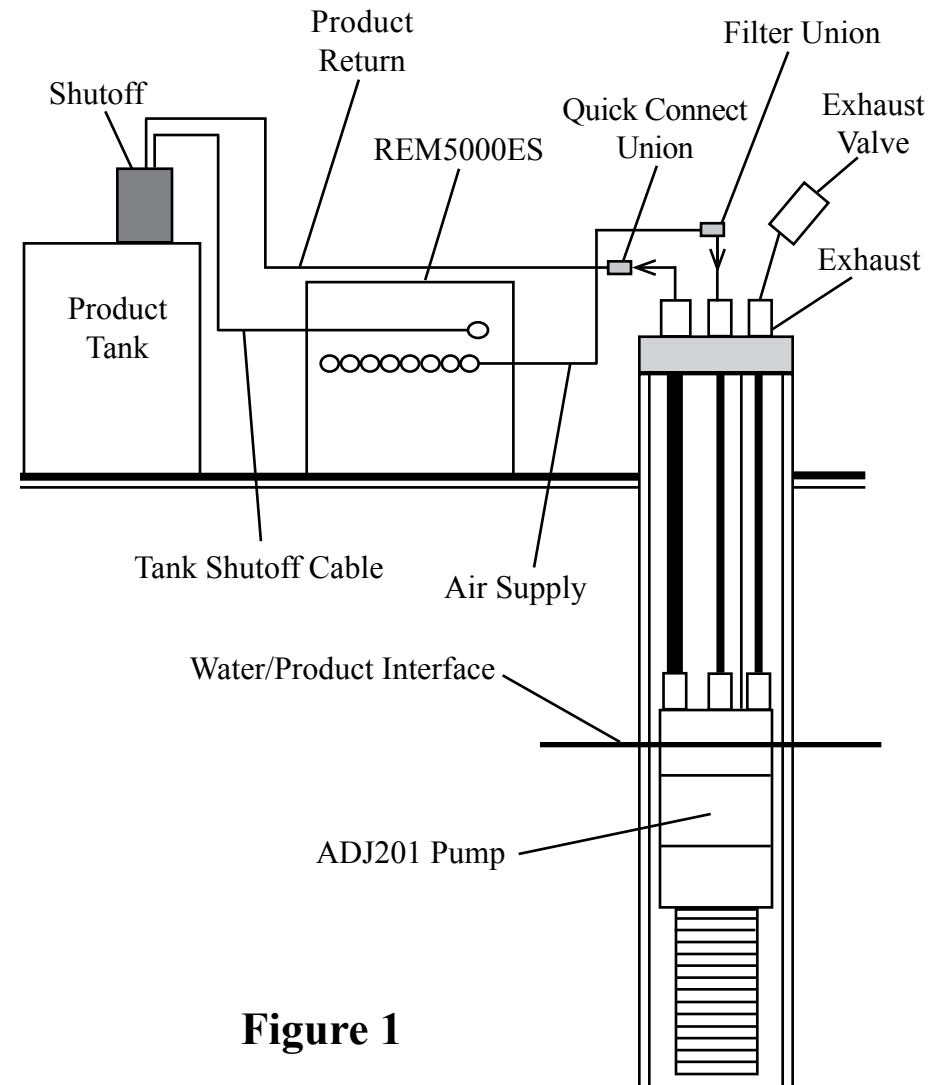
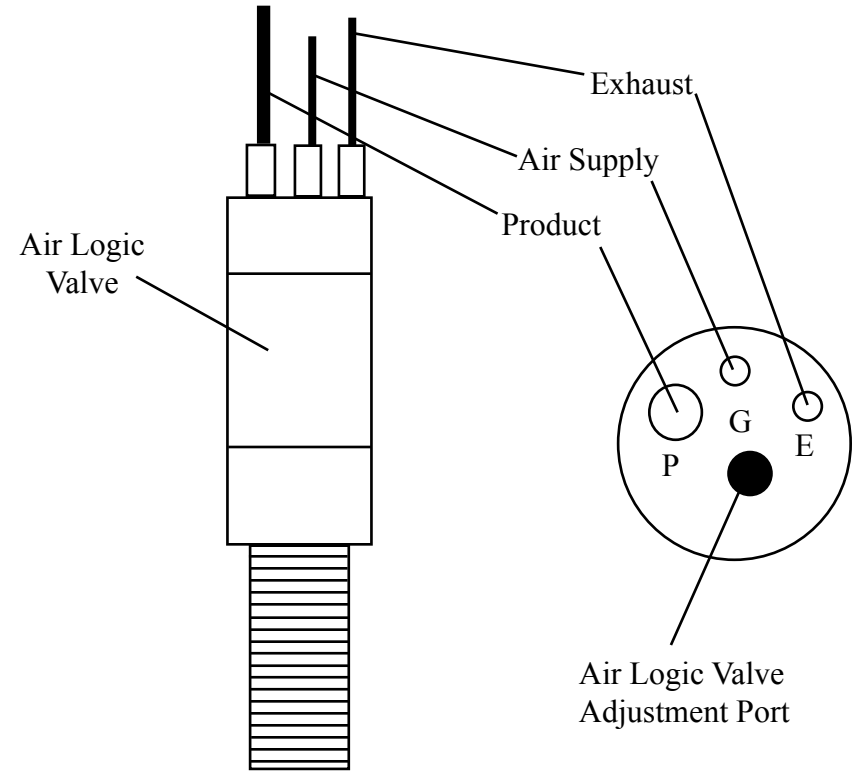

Figure 1
Figure 3
The system (Figure 1) relates to sinking DNAPL recovery in wells two inches in diameter and larger. This system includes: an intrinsically safe pneumatic ADJ201 Smart Pump (Figure 3) which removes the DNAPL down to 200 feet deep; and a solar powered Control Station Model REM5000ES which operates up to 8 pumps intermittently, records run time, and has a high level tank shutoff assembly.
STEP 2. Install holding tank shutoff assembly into holding tank (a 2" standard pipe inlet will be required in the holding tank). The level of product in the holding tank can be set by raising or lowering the liquid level float switch rod. Plug the high level shutoff switch cable connector into the left end of the controller (Figure 1).
STEP 6. Position the pump and well cap on the ground near the well. Cut a length of 1/4" OD air supply tubing to cover the distance from the top of the well down to the bottom of the well, plus 5 feet. **NOTE:** If the pump is over 70 feet deep, use 3/8" OD air supply tubing in stead of 1/4" OD tubing. Slide enough tubing through the well cap to position the pump at the bottom of the well and attach the end of the tubing to the top of the pump tube fitting labeled "G" (Figure 3).
STEP 7. Cut a length of 5/16" OD product tubing same length as the air supply line. Install 5/16" OD product tubing through the well cap tube fitting labeled "P" (Figure 3). Slide enough tubing through the well cap and attach the end of the tubing to the top of the pump tube fitting labeled "P". **CAUTION:** Do not kink the tubing.